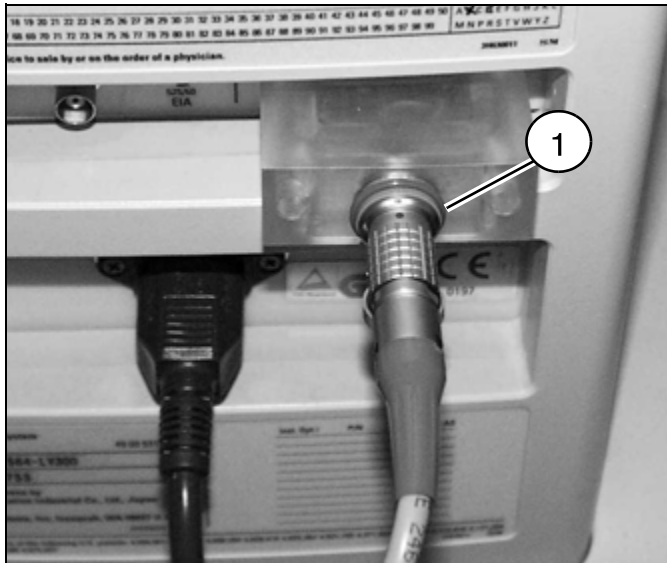

Fig. 61: SONOLINE Prima
- Install the connector adapter (1/Fig. 61 / p. 59).